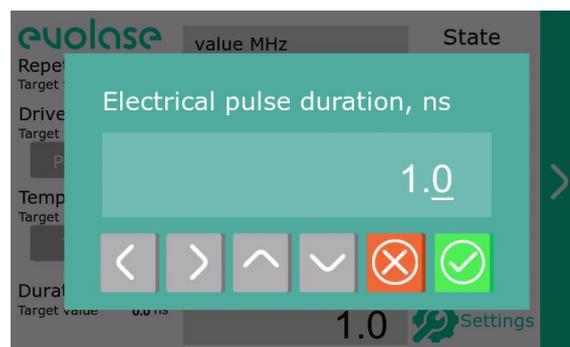

Figure 29 – Setting the pulse width
8. Tap on duration pulse value to set the pulse width (fig. 29). Use the left and right arrows to select the digit to change, use the up and down arrows to change the value. Press button to save the changes and exit menu. Press button to exit menu without changes.